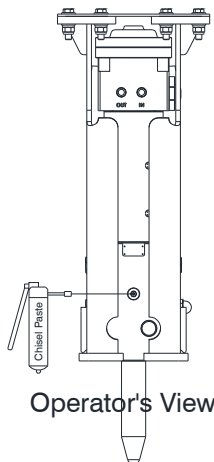

Fig 10-5 Lube Point
2. Fig. 10-5. Locate the single lube fitting on the front head. Wipe lube nipple. Press grease gun over lube nipple. Pump lever 10-20 strokes.